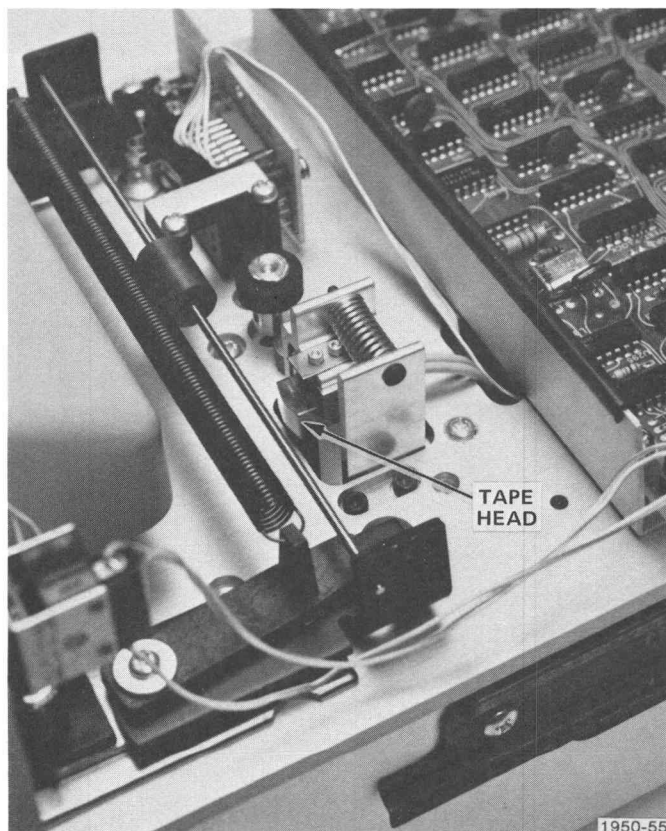

Fig. 15-2. Tape head location.
3. Inspect the tape head (Fig. 15-2) by shining a light, such as a penlight, at an angle across the surface of the head. This reveals accumulated matter or damage to the head.